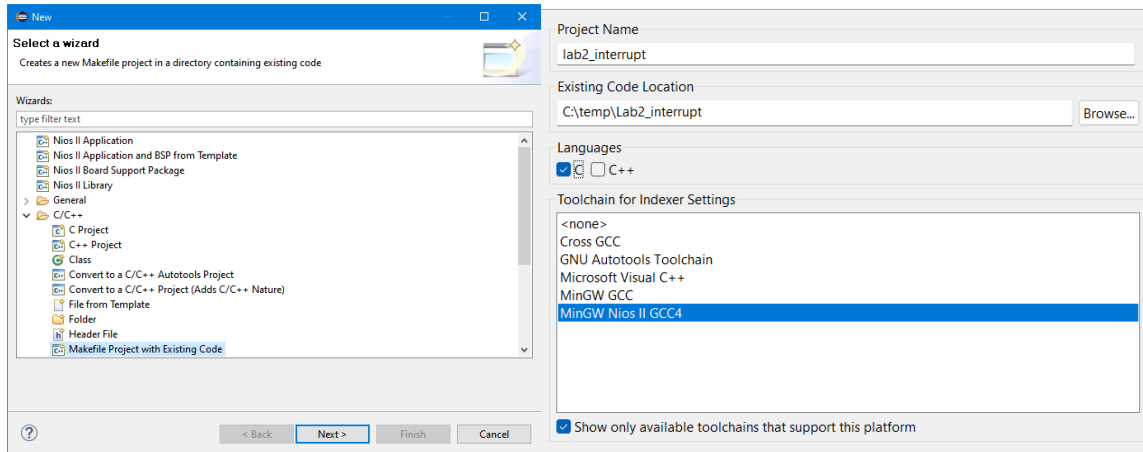

Figure 1: Project Setup for low-level interrupts
2. Create an empty project with “File > New > Other > C/C++ > Makefile Project with Existing code” shown in the left of figure1 and set up the project as in the right of figure 1:
- Use the following settings (see figure 1):